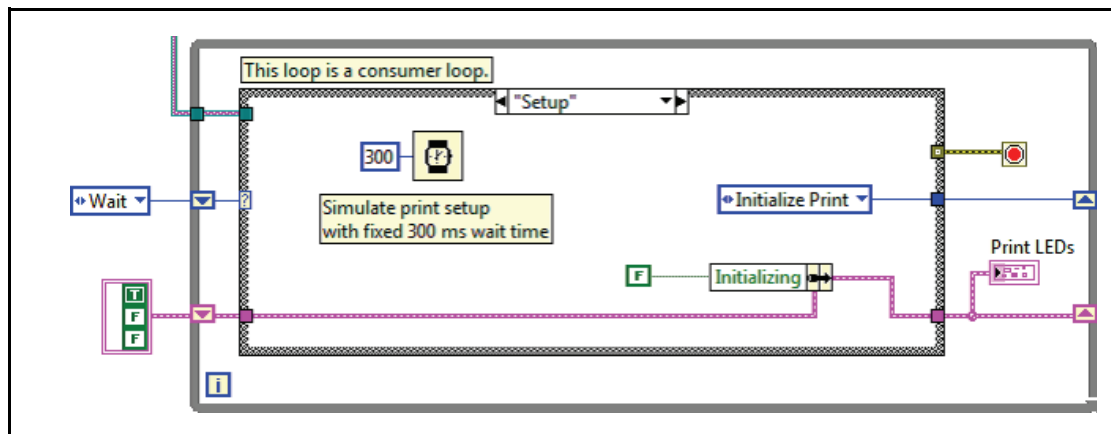

Figure 6. Consumer Loop—Setup Case
3. Refer to Figure 6 to create the Setup state.